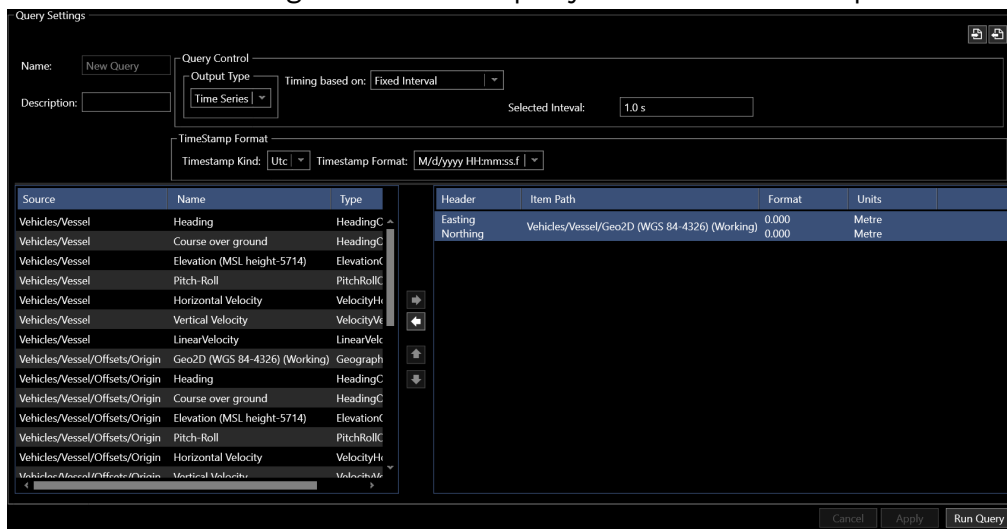

FIGURE 14-82 DATA RECORDING - DATA QUERY - QUERY SETTINGS
4. **Query Settings:** Once the start and end times and data sources are configured the query can be configured. The query settings panel is shown in Figure 14-82.